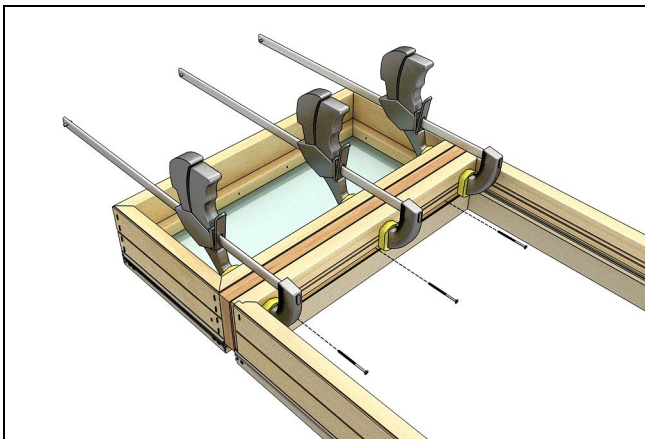

Figure 30
5. Clamp the two units together and screw through the head jamb and into the blocking above 4" from each end and 12-15" on center after. See Figure 30